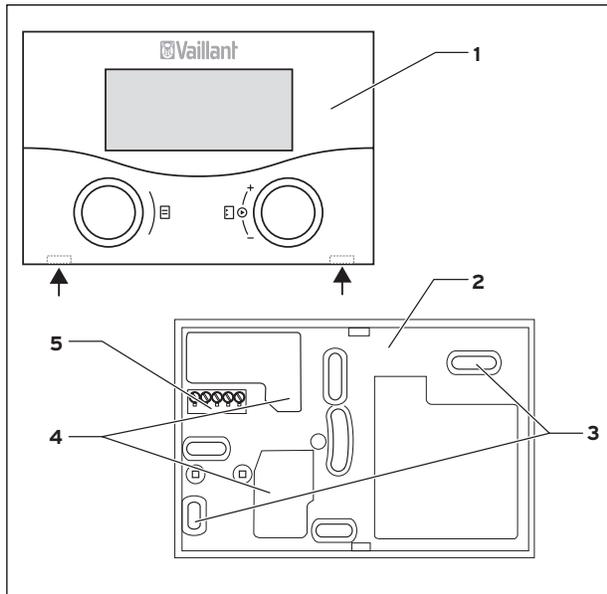

Fig. 4.1 Fitting the VRT 392
- ⇒ Pull the room thermostat (1) off the wall socket (2). Insert a screwdriver into the two retainer straps to do this (see Fig. 4.1 arrows).
- ⇒ Drill two holes 6 mm diameter corresponding to the fixing apertures (3).
- ⇒ Insert the eBUS cable through one of the cable entry points (4).
- ⇒ Carefully push the thermostat onto the wall socket until it clicks in position. The pin rail on the back of the thermostat must fit into the plug connection (5) provided on the wall socket.